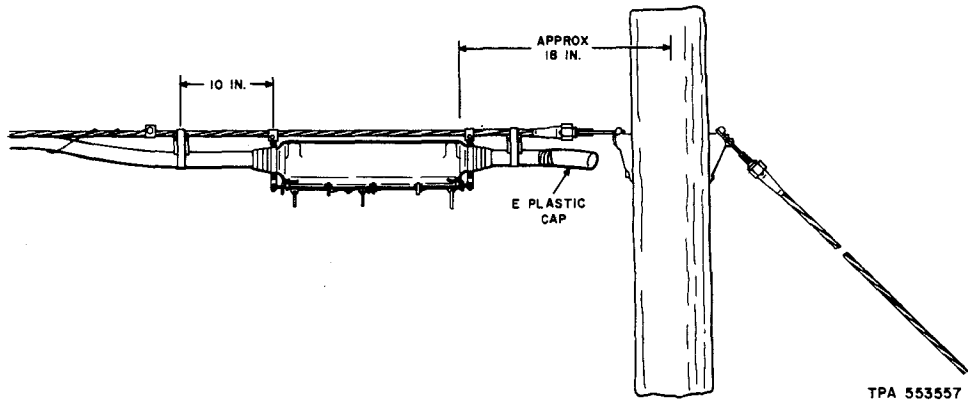

Fig. 1—Lashed Cable Capped at Deadend Pole
4.02 ▶Strand-supported and self-supporting PIC cable should be cut and capped beyond the last distribution terminal location (Fig. 1 and 2). *Premeasure the location and construct the cable cap in a vertical position prior to placing the terminal and supports.*▶
- (j) Position and secure the cap as shown in Fig. 1, 2, 3, or 4, as appropriate.◆